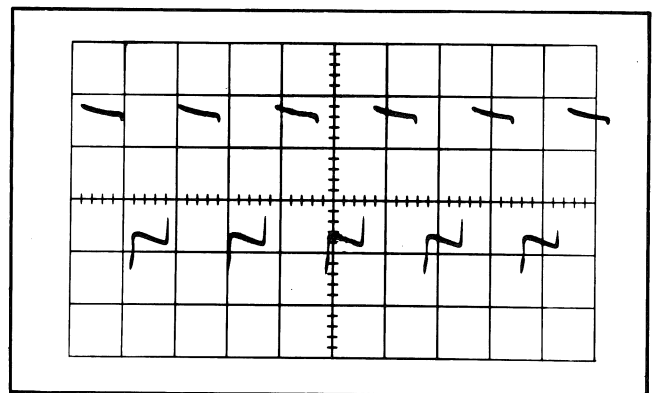

Fig. 2-3. Chopped blanking check with CRT Cathode Selector switch at Chopped. Vertical switching lines are blanked.
4. Set the oscilloscope CRT Cathode Selector switch to the Chopped Blanking position and check that the fast rising and falling portions (switching portions) of the display are blanked so only the "on" segments of each trace are visible (Fig. 2-3).